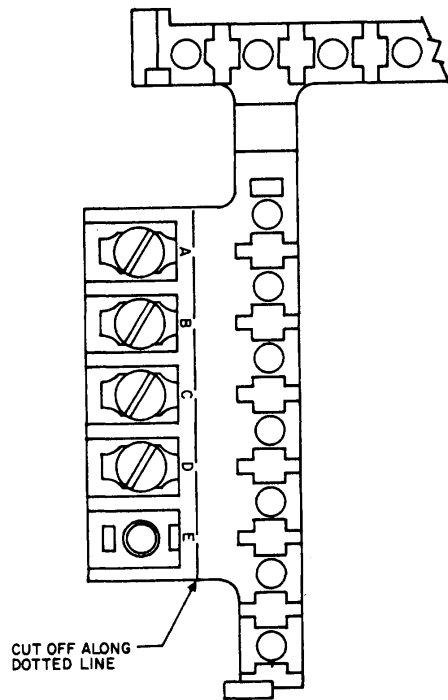

Figure 16. Typical View of Spacer Terminal Strip D-65593-A.
- (b) Cut off the spacer terminal strip as shown in Figure 16.